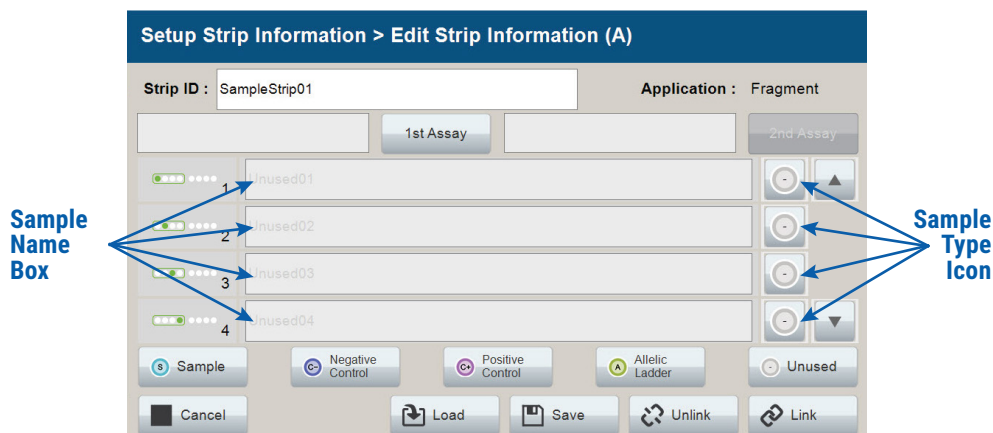
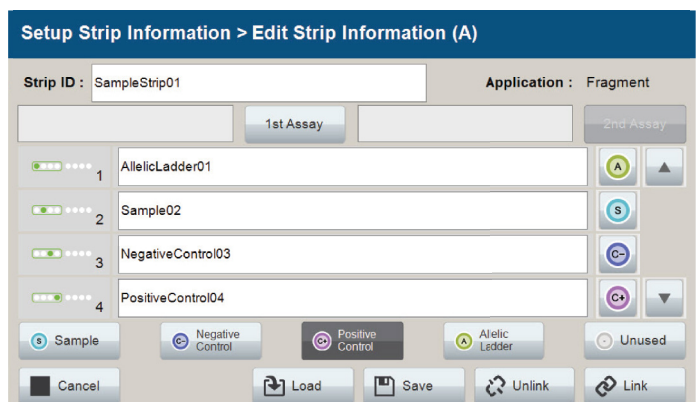

Figure 62. Sample Type and Sample Name on 'Edit Strip Information' screen.
Figure 63. Sample Name Entry on 'Edit Strip Information' screen.
2. Select a sample type on the 'Edit Strip Information' screen (Figure 62). Sample types must be selected for each well position before the **Sample Name** box becomes active for entry of sample name. Sample types available for fragment analysis are as follows.
- To assign a sample type to a well, select the appropriate sample type button along the bottom of the 'Edit Strip Information' screen (Figure 62), and then select the **Sample Type** icon to the right of the sample name field for the desired well. This icon will then display the sample type selected for that well (Figure 63).
- Enter a sample name for each well position by selecting the **Sample Name** box adjacent to the well number on the 'Edit Strip Information' screen (Figure 63). This opens the 'Set Sample Name' window, and a keypad will become active on the touch screen (Figure 64). Alternatively, the Sample Name can be entered using a traditional keyboard if one is connected to the Spectrum Compact CE System. Enter the appropriate sample name, and then select **OK** to exit and return to the 'Edit Strip Information' screen. The following table lists rules for characters that can be used for a sample name.
- The Spectrum Compact Control Software includes pre-loaded run assays for use with chemistries available from Promega and other commercial suppliers. To create a new assay or modify an existing assay, see Section 7. To assign a run assay to an injection set, select **1st Assay** on the right side of the 1st Assay field (Figure 63). This opens the 'Select Assay' window (Figure 65). Select an assay from the drop-down list using the scroll buttons to find the appropriate assay.